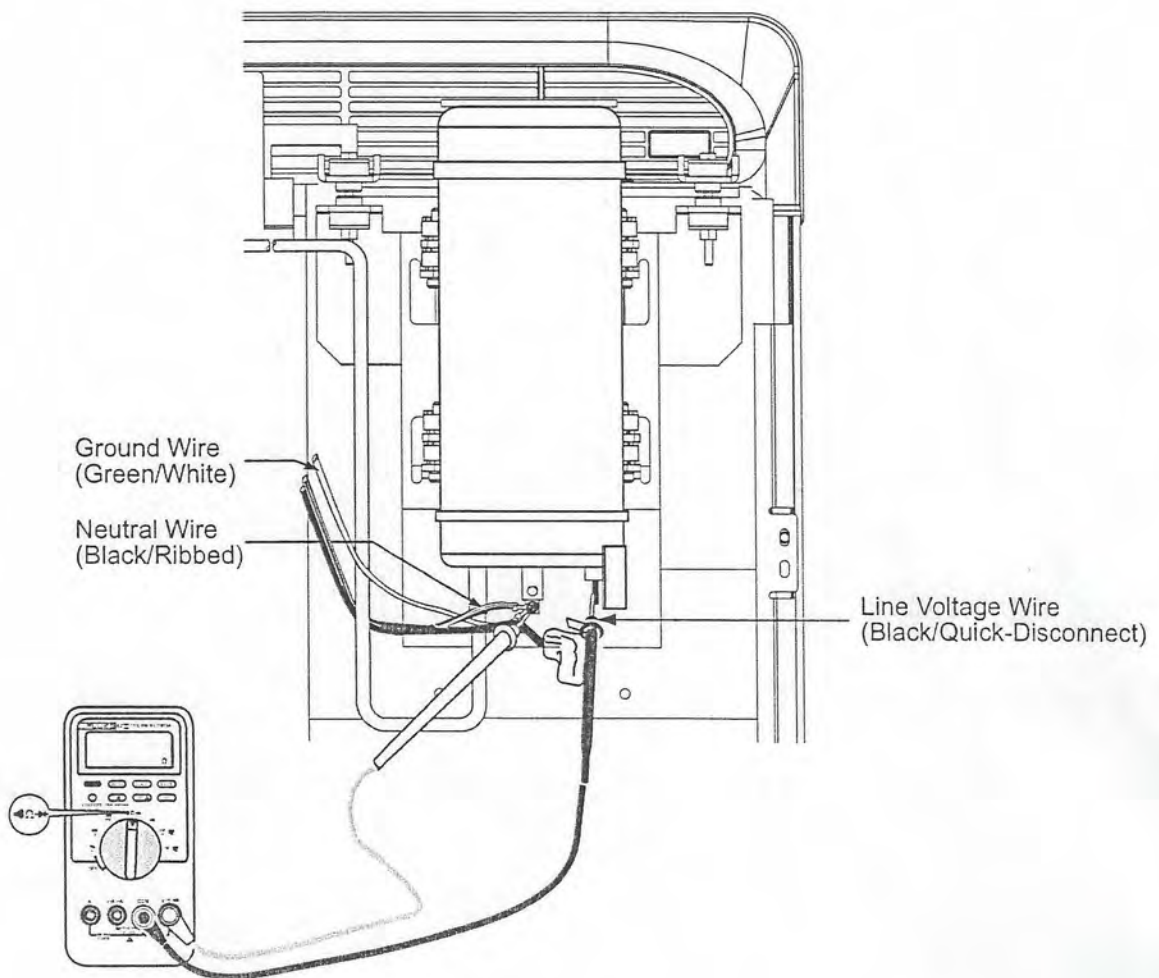

Figure 17. Checking compressor windings resistance.
3. Disconnect the line voltage wire from the compressor. See Figure 17.
4. Measure compressor resistance as shown in Figure 17. Resistance should measure between 1.4 and 3.5 ohms.